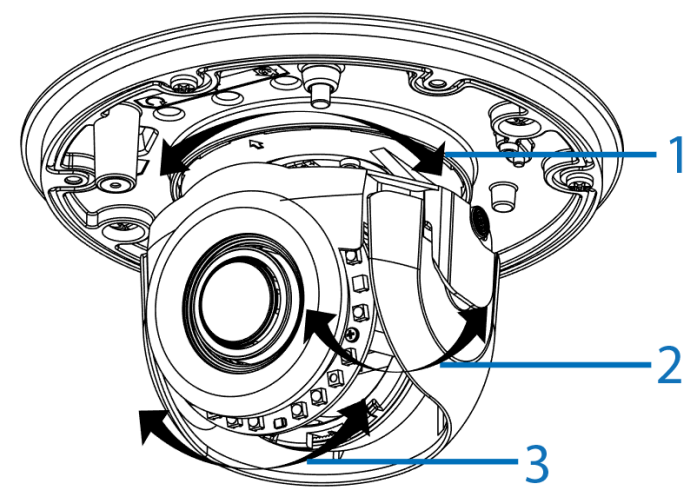

Figure 7
9. Adjust the camera lens position as follows. See Figure 7.
- **Pan Adjustment (1):** Rotate the lens base until you are satisfied with the field of view.
- **Tilt Adjustment (2):** Tilt the eye-ball assembly as needed.